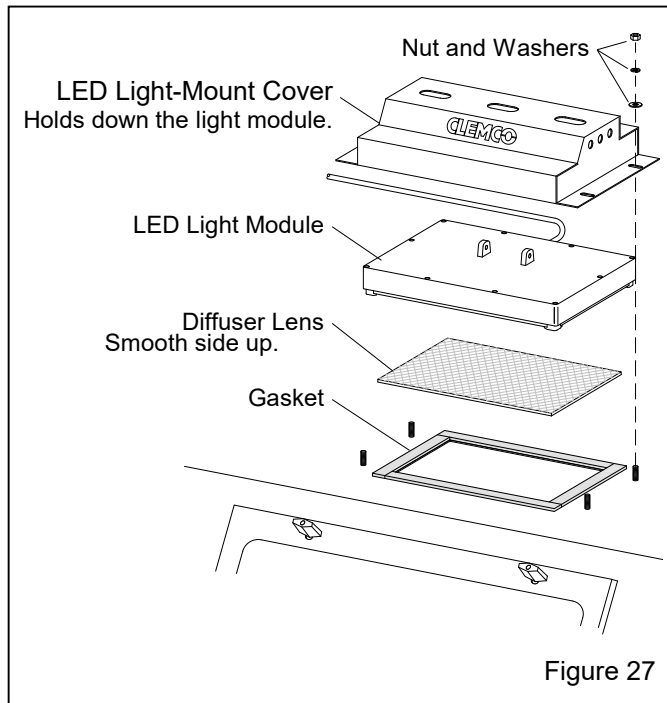

Figure 27
7.7.1.2 Remove the four nuts and washers that attach the light-mount cover to the cabinet and remove the cover, as shown in Figure 27.
7.7.2.3 Lay a section of strip gasket along the edge of the opening and cut to length allowing 3/4" overlap on each end. Peel a short section of adhesive backing and adhere the strip gasket to the top edge of the light opening, as shown in Figure 27. Press the gasket to bond. Repeat the process for each side, compressing the ends to seal.